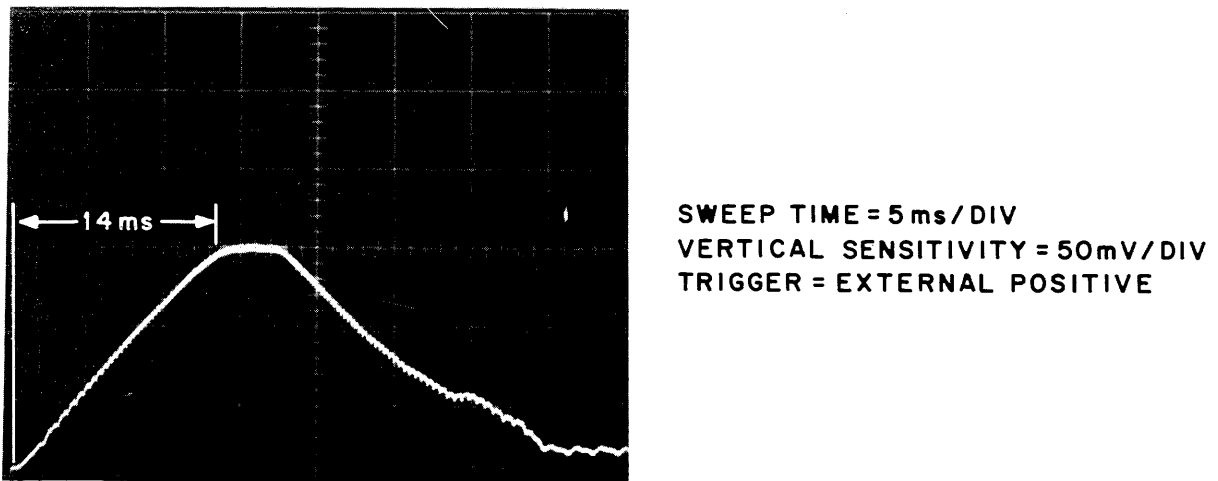

Figure 5-9 64-Cylinder Seek Waveform
20. Monitor pin A5-H1 and ensure that the displayed signal has a rise time of 14 ± 1 ms (Figure 5-9). If not, adjust the circular potentiometer on the H604 card to obtain the proper rise time.